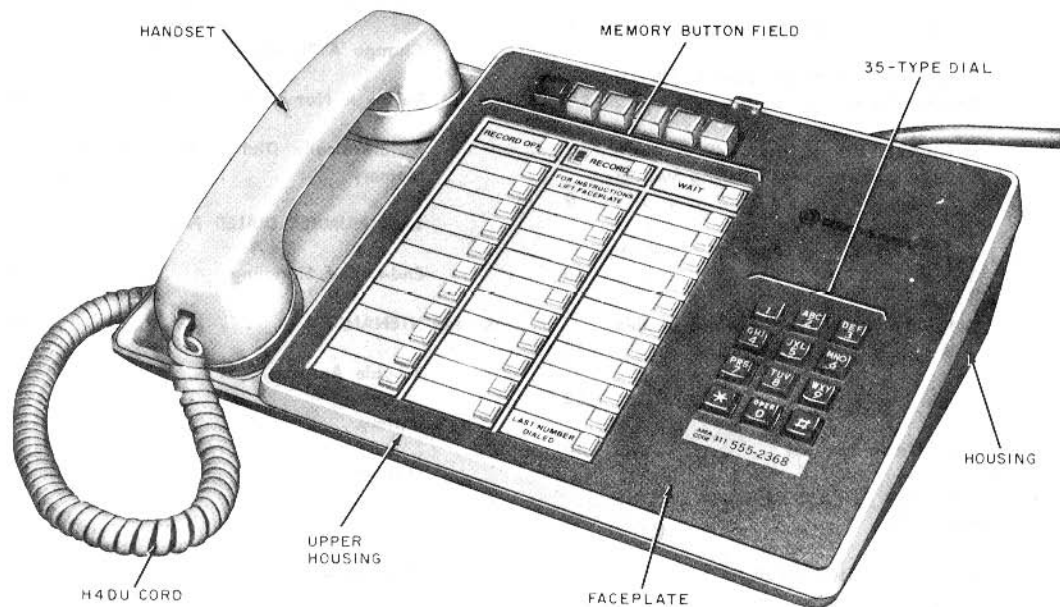

Fig. 1—2872A1M (MD) or 282A2M Telephone Set
**1.01** This section contains identification, installation, connections, operation, and maintenance information on the 2872A1M (MD) or 2872A2M telephone set (TOUCH-A-MATIC service) (Fig. 1).
- Show 2872A1M telephone set (MD)
- Revise Fig. 1 through 5, 7 through 12, and 14